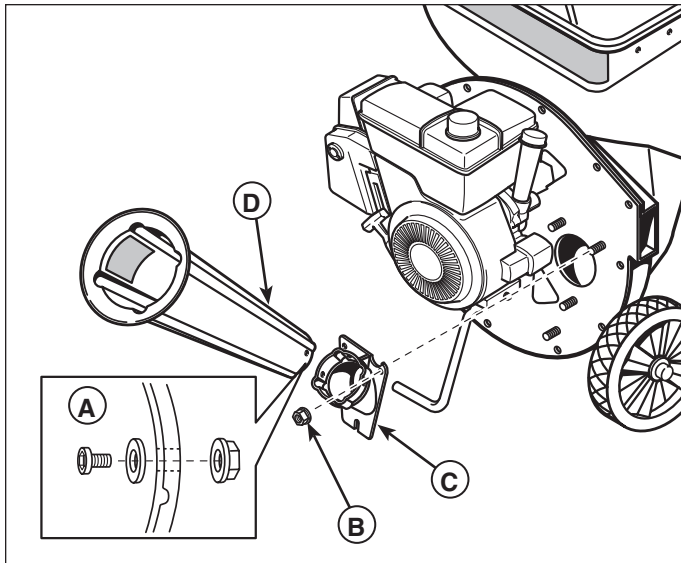

Figure 18. Installing the Chipper Cone
1. Secure the chipper cone (D, Figure 18) to the chipper cone base (C) using 1/4-20 x 3/4 screws, washers, and nuts (A).
2. Position the chipper cone base (C) over the three 5/16-18 threaded studs protruding from the engine plate, and attach using three 5/16-18 flange nuts (B).